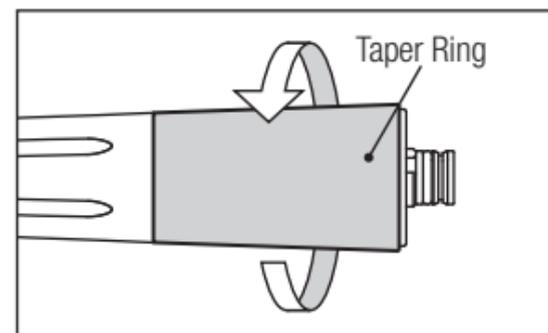

Fig. 14 15
- 1) Loosen and Remove the taper ring at the rear of the handpiece. (Fig. 14)